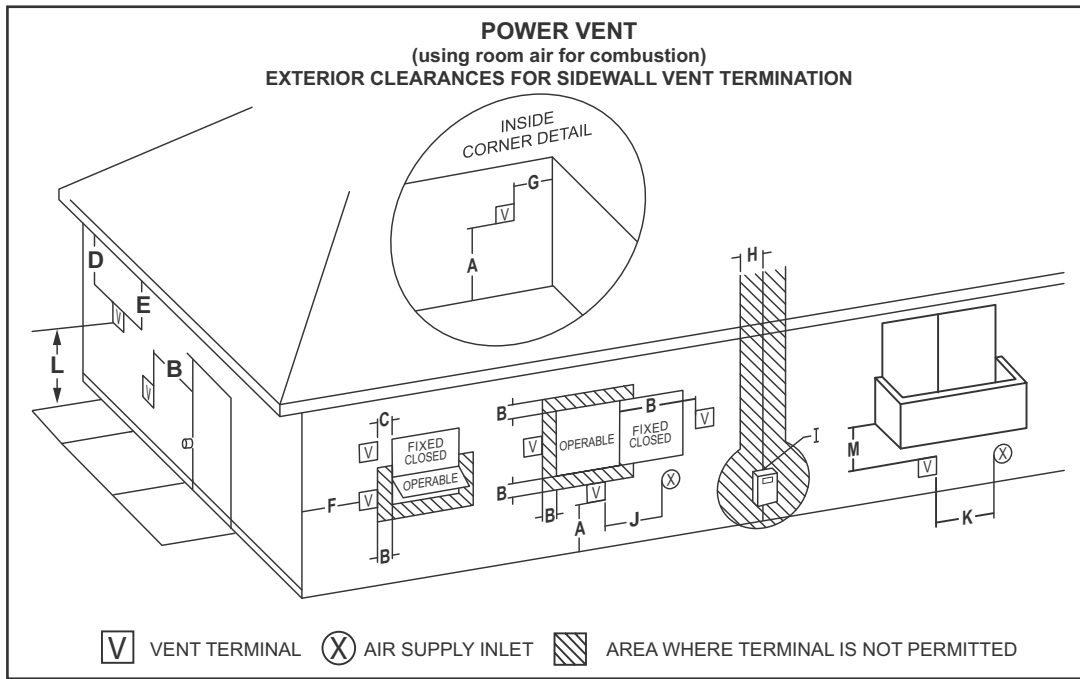

Figure 48
- If installing only vent (exhaust) piping in a Power Vent configuration through a sidewall; ensure that all exterior sidewall clearance requirements for the termination, shown in Figure 48 on page 36, are being maintained. These clearances and those cited by local and national codes must be maintained.